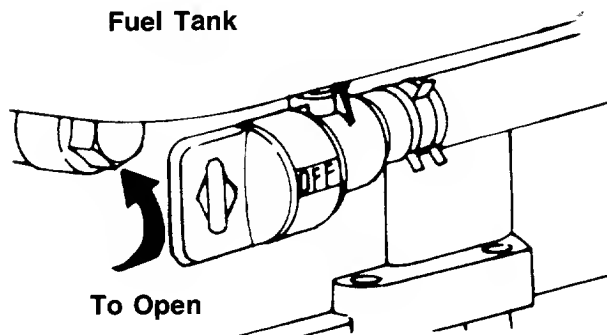
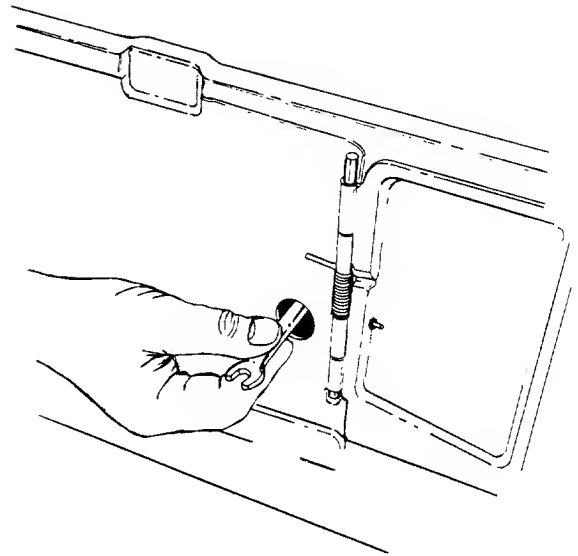

FIGURE 17.
FIGURE 18.
2. The fuel shut-off valve is located beneath the fuel tank. On Model 214, an access hole is provided in the catcher panel. The fuel shut-off valve should be in the open position. See figure 17. Open fuel shut-off valve using a wrench if it is closed. See figure 18.